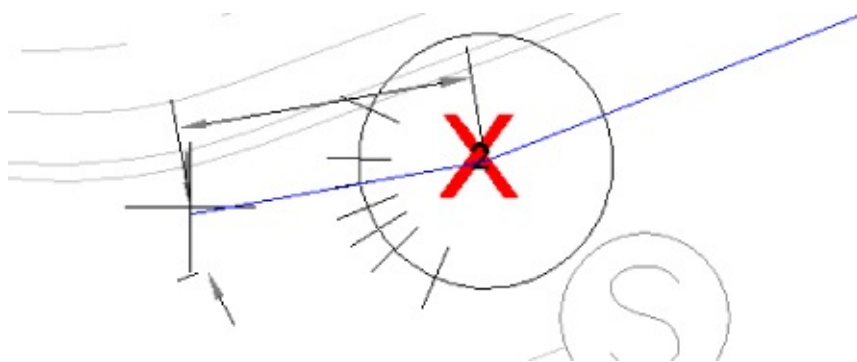

Figure 13.86 The Pressure Pipe Fitting glyph reflects your elbow angles.
9. At the bend, you are restricted to the bend angles listed in your part network. The Compass glyph (Figure 13.86) that appears represents the elbow angles to the left and right of your pipe. If you had not included multiple elbow angles in your Pressure Pipe Network parts list, only the default elbow angle of 11.25 degrees would be available.